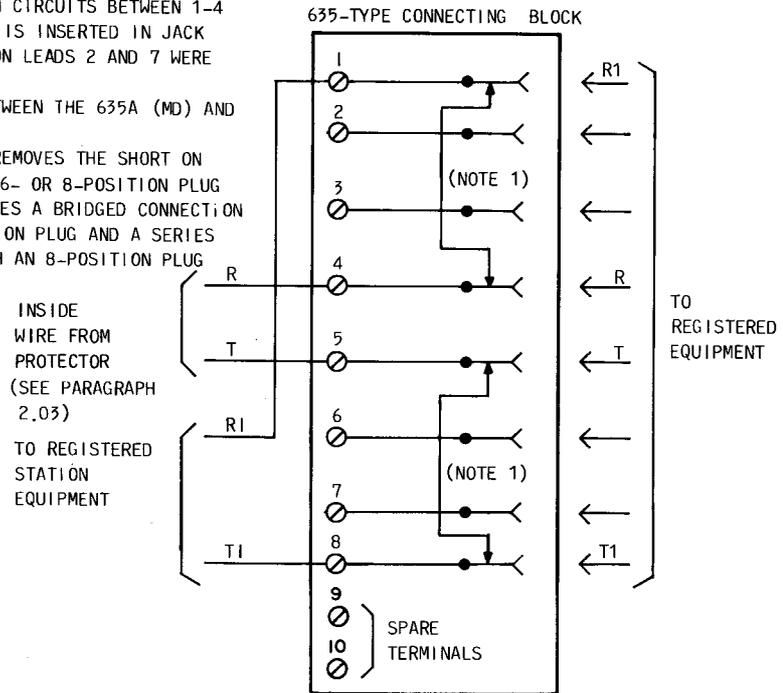

Fig. 4—Connections for USOC RJ32X
2.03 USOC RJ32X: This arrangement (Fig. 4) also provides a series tip and ring connection through the 635-type connecting block but is used where the registered equipment is connected in series with a single station, such as an automatic dialer.